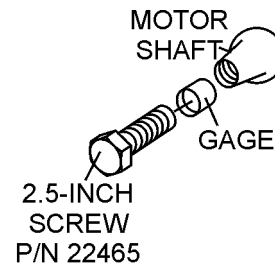

Figure 6. 2.5-Inch Bolt With Gage
ALWAYS ensure that both the left and right spiders assemblies are configured the same, meaning key versus keyless. A **keyless** tapered spider (new style) will be torqued to 350 ft-lb (475 N·m) and will be marked on the backside of the spider as "TQ350" (See Figure 6). A **keyed** tapered spider (old style) will be torqued to 130 ft-lb (176 N·m).
5. Slide gage block, Figure 6 (P/N 23380) over 2.5-inch bolt P/N 22465, and insert bolt into motor threaded shaft. Torque hand-tight to 10 ft-lbs.